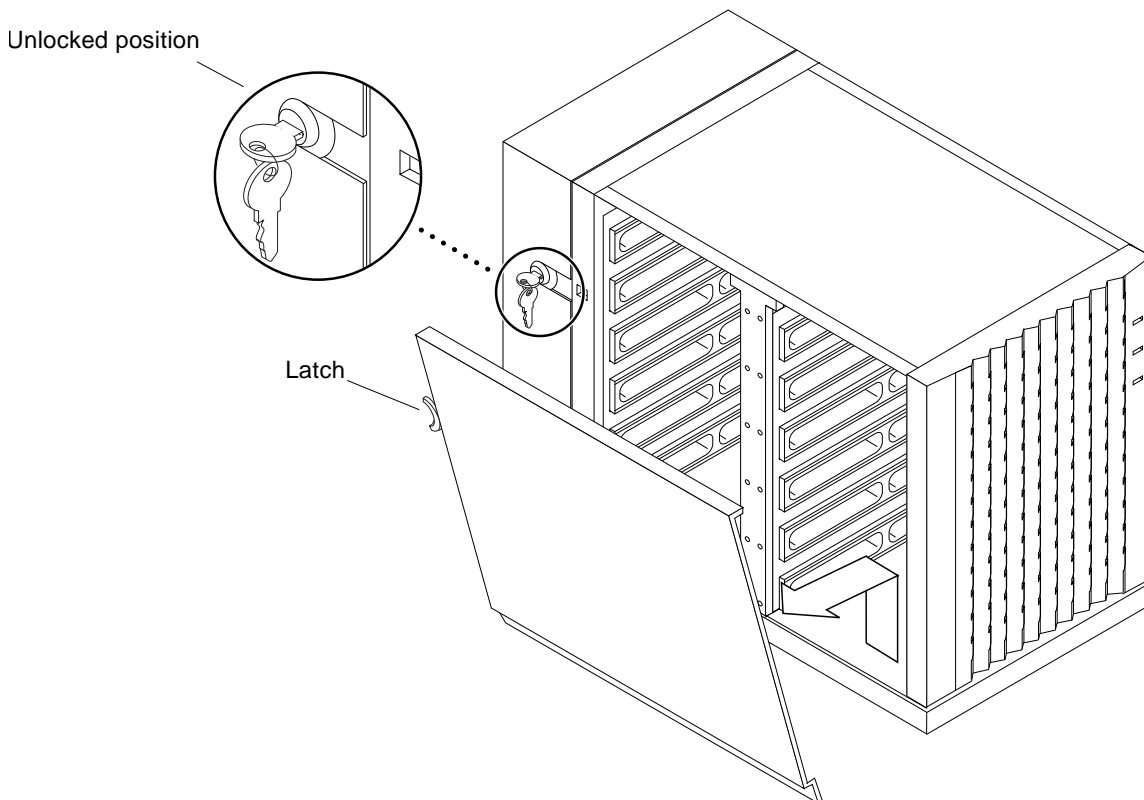

FIGURE 5-2 Removing and Replacing the Left Side Panel
1. **Unlock the panel door latch by turning the key 90 degrees counterclockwise (FIGURE 5-2).**
2. **Pull the door latch forward to release the panel (FIGURE 5-2).**